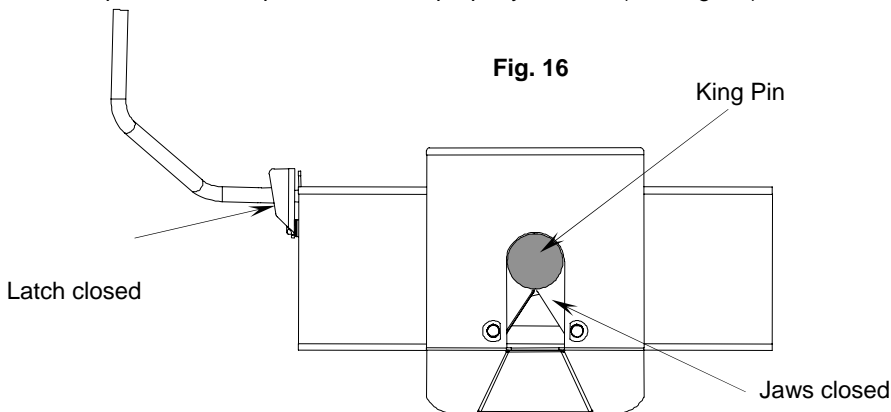

**Fig. 14
6. With all trailer wheels still firmly blocked, landing gear still resting on firm ground and supporting trailer weight, and truck stationary and in park with emergency brake on: visually check that bottom of pin box is resting on top of the hitch. **THERE SHOULD BE NO SPACE BETWEEN THESE SURFACES** (See Fig. 14). If space exists, (See Fig. 15) trailer has not been properly hitched. **DO NOT TOW!** Instead, repeat above steps until trailer is properly hitched. **DO NOT PLACE BODY UNDER TRAILER TO PERFORM THIS INSPECTION!**